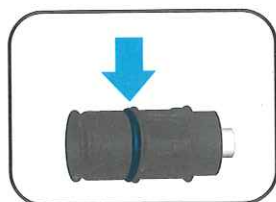

Figure-03
- Remove the Blue O-Ring from the Balloon Adapter (Figure-03).